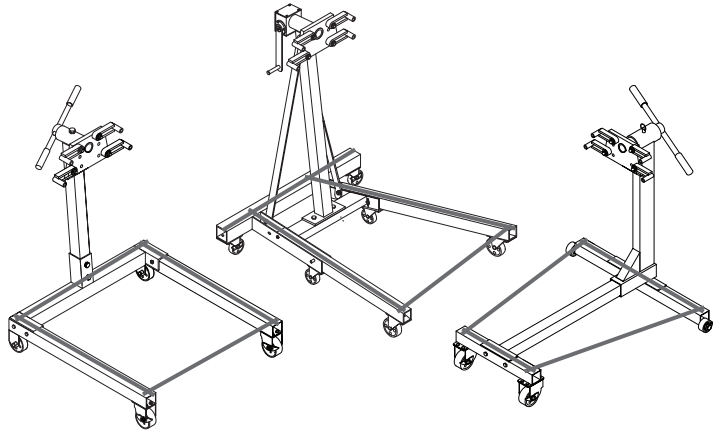

Figure 9 - Peripheral Loading Limit of Engine Stand
**⚠️WARNING: ALWAYS** verify that the product and the application are compatible. **NEVER** load the engine stand with an engine that extends beyond an imaginary line drawn connecting the centerlines of the front and rear wheel/ caster axles as show in Fig 9.